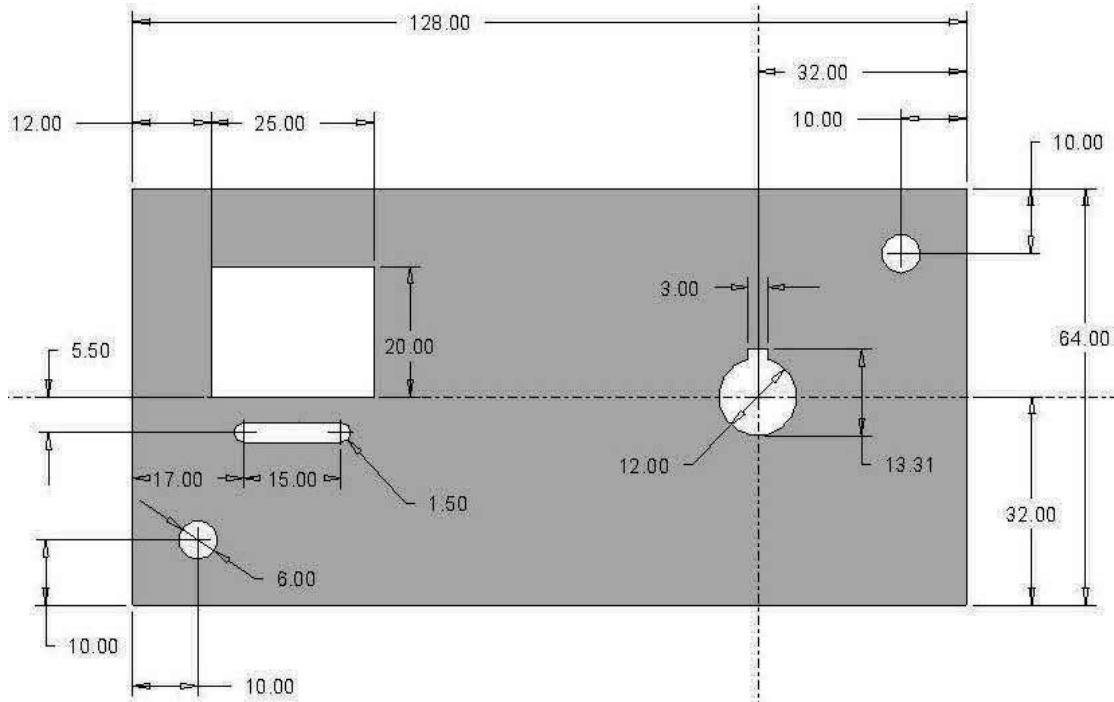

Figure 3-76 Problem 7
3.7 Draw the "front\_cover\_plate" (Figure 3-76). **Design Intent**—All features are located from the outside edge of the cover plate, and not relative to each other.